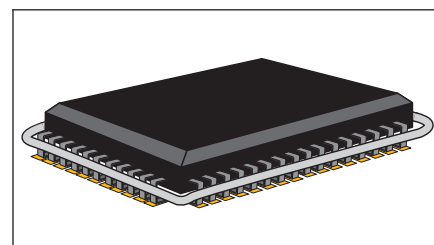

Figure 1 Wrap Solder
5. Wrap a length of .025 or .031 gauge wire solder once around the leads of the component. (See Figure 1.)